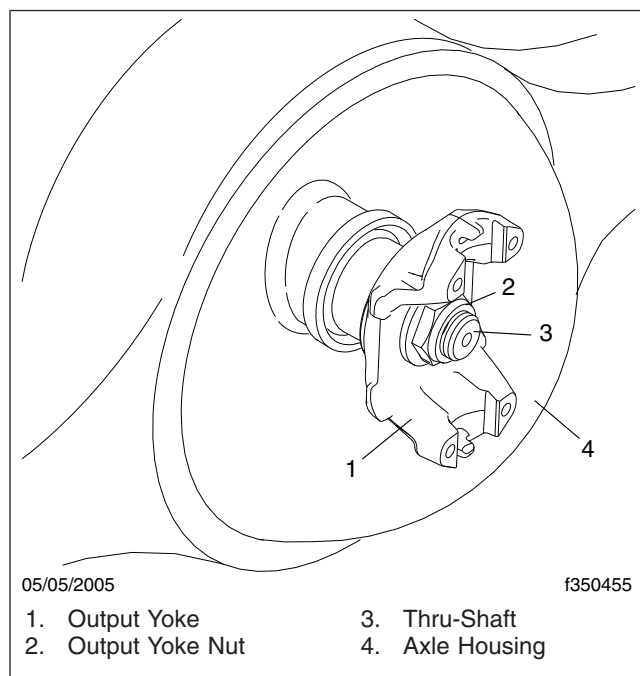

Fig. 5, Output Yoke
3. Remove the output yoke from the thru-shaft. See Fig. 5.